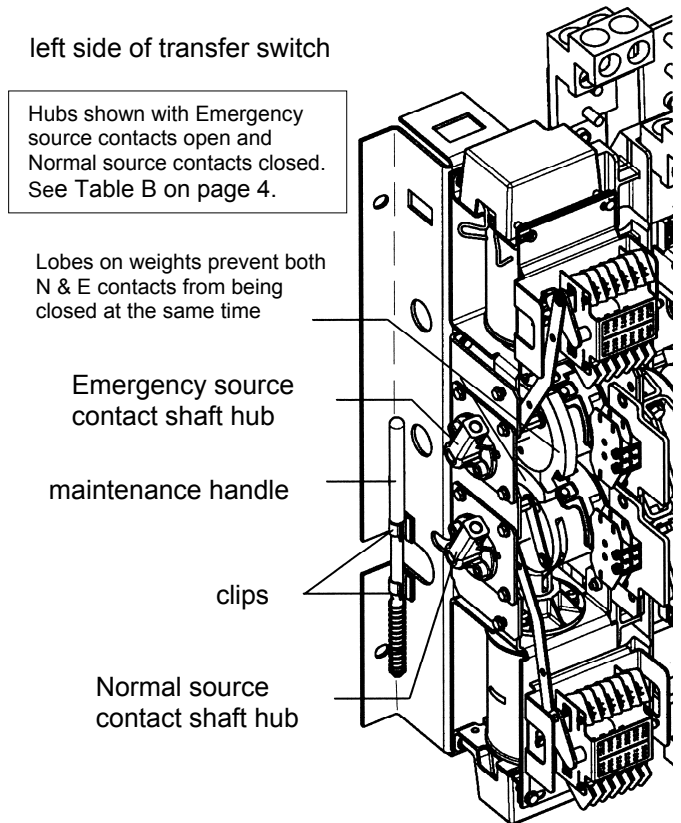

Figure 5. Maintenance handle on 3ADTS & 3NDTS.
3. 3ADTS and 3NTS have two contact shaft hubs. See Figures 5 and 6 and Table B.